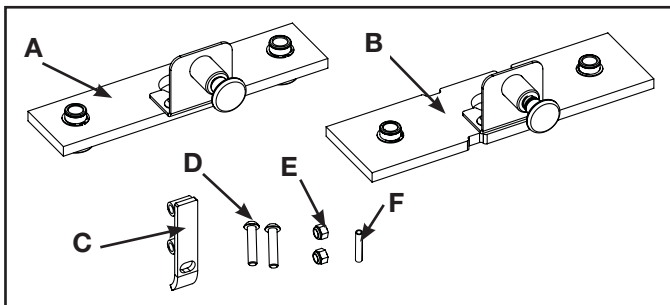

Figure 1
2. Verify kit contents. See Figure 1. **NOTE:** Kit will contain either A or B.
- A. 5 lb half weight assembly (1)
- B. 7.5 lb half weight assembly (1)
- C. Latch (1), 13000-208
- D. BHSCS .375-16 x 1.75 (2), JC700424
- E. Locknut .375-16 nylon, (2), HN704901
- F. Roll pin 1.88 x 1.12 (1) HP286819